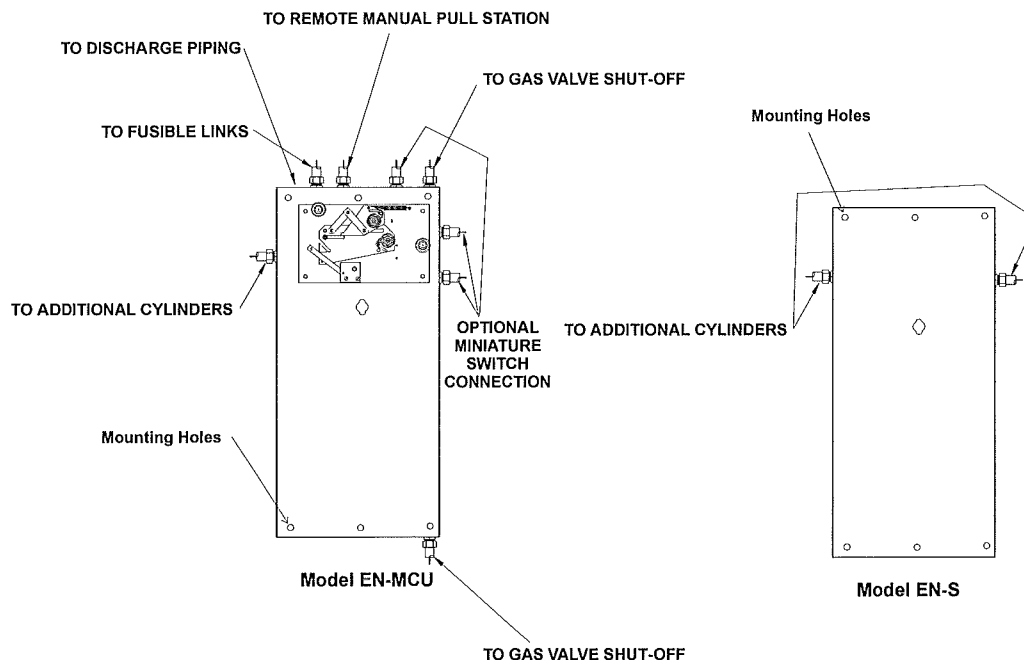
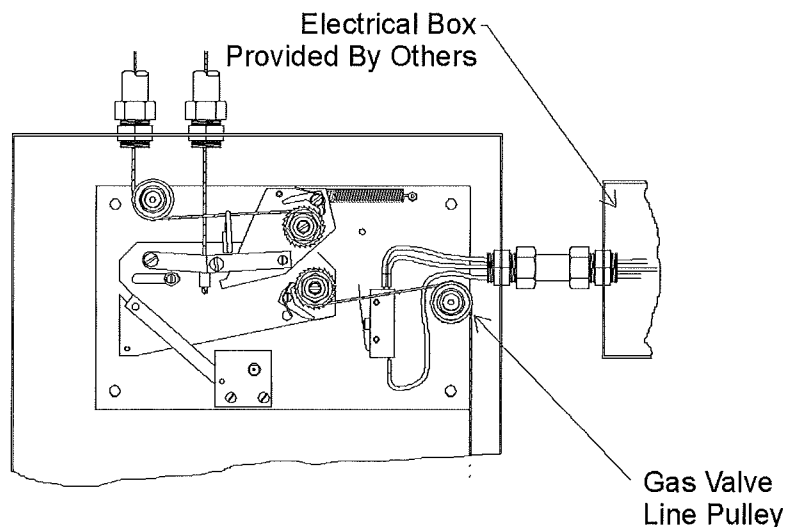
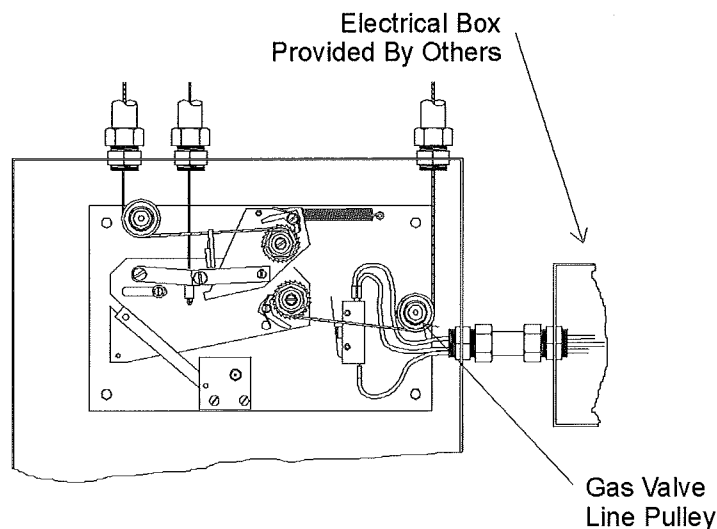

Figure 4-24. Models EN-MCU and EN-S Enclosures.
Figure 4-26. Gas Valve / Miniature Switch Installation.
Figure 4-27. Gas Valve / Miniature Switch Installation.
Three (3) center mounting holes allow either enclosure to be mounted on a single stud. Four (4) corner mounting holes are also available. See **Figure 4-24**.
After the valve is installed in the gas line, 1/2" conduit must be run from the top center knockout of the gas valve box to the top or bottom knockout in the enclosure. See **Figure 4-24**. A Pyro-Chem corner pulley is used wherever a change in conduit direction is required.
Remove the gas valve cover and thread the stainless steel cable through the conduit back to the Model EN-MCU. If the cable enters the enclosure through the bottom knockout, the cable must be run over the gas valve line pulley (see **Figure 4-26**). If the cable enters the enclosure through the top knockout, the cable must be run under the gas valve line pulley (see **Figure 4-27**). Thread the cable through the hole in the gas valve ratchet wheel. The line must then be crimped, and the crimp positioned inside the center of the ratchet wheel.
The gas valve line can now be put into a set position by applying tension to the gas valve line. This is accomplished by using a 3/4" socket on the gas valve ratchet wheel. The ratchet wheel will be ratcheted in a clockwise direction until the gas valve is fully open. Secure the gas valve cover plate to the gas valve box with the four (4) screws provided. The gas valve line is now in a set position. See **Figure 4-26** and/or **Figure 4-27**.
The Model MS-SPDT or MS-DPDT Miniature Switch is available for use where an electrical output is required. These switches can be field installed in the Model EN-MCU. See **Figure 4-26** and/or **Figure 4-27**.
Three (3) knockouts are provided for Miniature Switch wiring. The upper right-side knockout must be used when the gas valve line exits the bottom of the enclosure (see **Figure 4-26**). The lower right-side knockout must be used when the gas valve line exits the top of the enclosure (see **Figure 4-27**). An additional knockout located on the top of the enclosure is also provided (see **Figure 4-24**) and may be used in either situation.